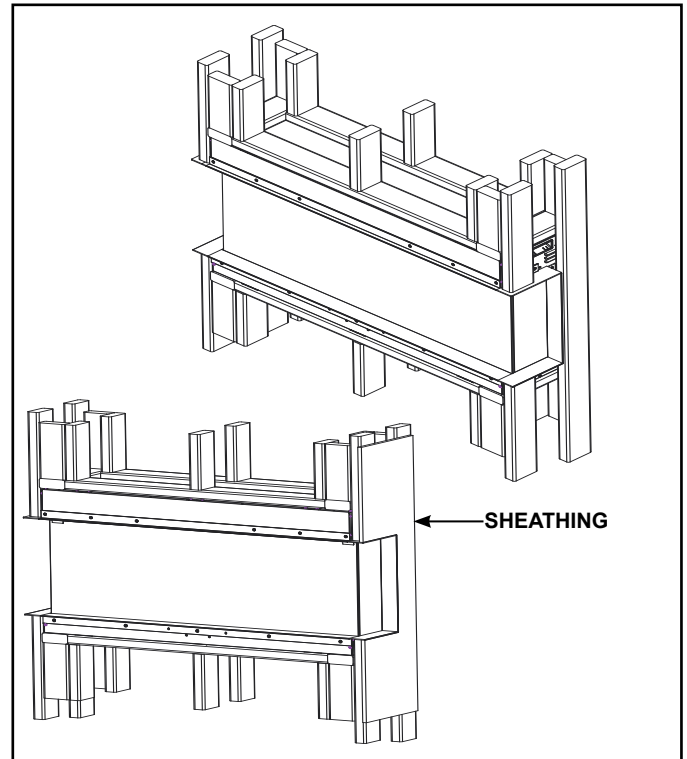

Figure 4.5 2 in. (51 mm) Side Trim Configuration
3. Install the appliance into the opening reference Figure 4.5. Ensure that weight of appliance is fully supported by floor or bottom framing member. Level with shims if necessary. Ensure that it is centered left to right, then fasten it directly to the framing with six (6) provided ST4*40 screws, one through each of the six (6) brackets.
Attach 2x4 framing members on the side of the framed appliance opening as shown in figure 4.5.